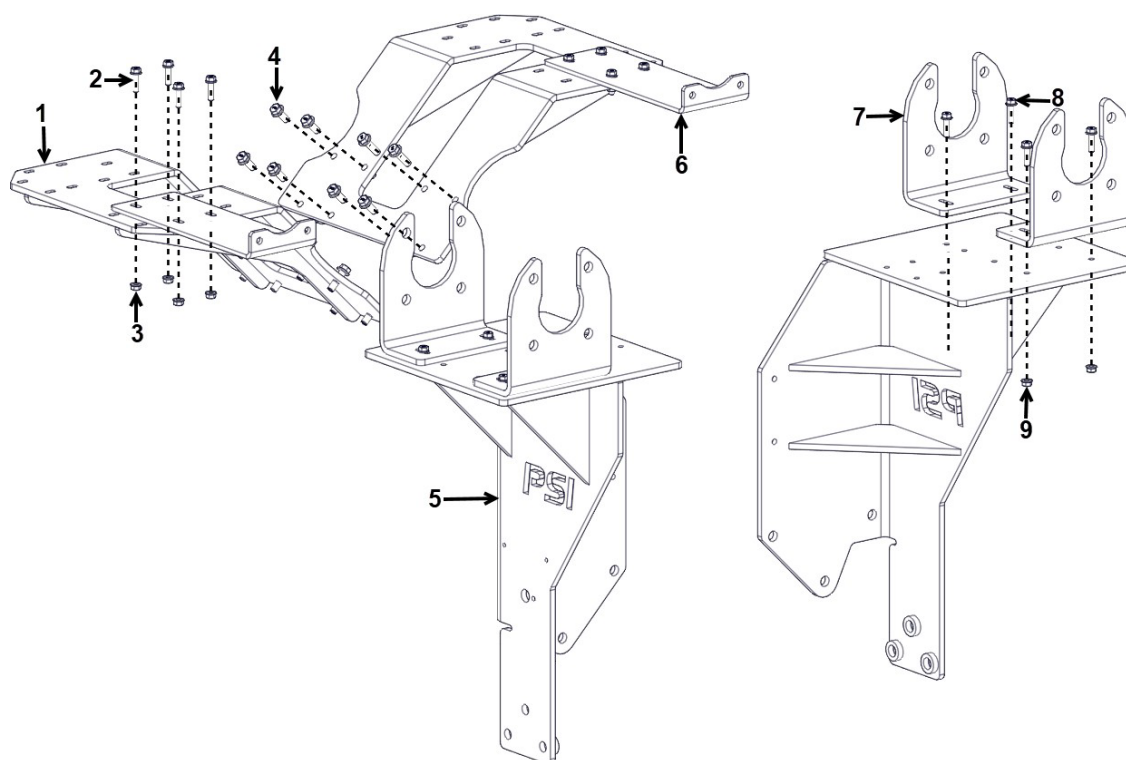

Figure 38. Fuel Mounting Bracket Assembly
1. Remove the four nuts and bolts (Figure 38, Item 8 & 9) from the lock-off brackets (Figure 38, Item 7).
2. Remove the lock-off brackets (Figure 38, Item 7).
3. Remove the four nuts and bolts (Figure 38, Items 2 & 3) from the MFG bracket (Figure 38, Item 6).
4. Remove the MFG bracket (Figure 38, Item 6).
5. Remove the eight bolts (Figure 38, Item 4) from the fuel bracket (Figure 38, Item 1).
6. Remove the fuel bracket (Figure 38, Item 1).
1. Place the fuel bracket (Figure 38, Item 1) onto the top of the cylinder block.
2. Insert and torque down the eight bolts (Figure 38, Item 4).
3. Place the MFG bracket (Figure 38, Item 6) on top of the fuel bracket (Figure 38, Item 1).
4. Insert and torque down the four nuts and bolts (Figure 38, Items 2 & 3).
5. Place the lock-off brackets (Figure 38, Item 7) on top of the fuel bracket (Figure 38, Item 5).
6. Insert and torque down the four nuts and bolts (Figure 38, Item 8 & 9).